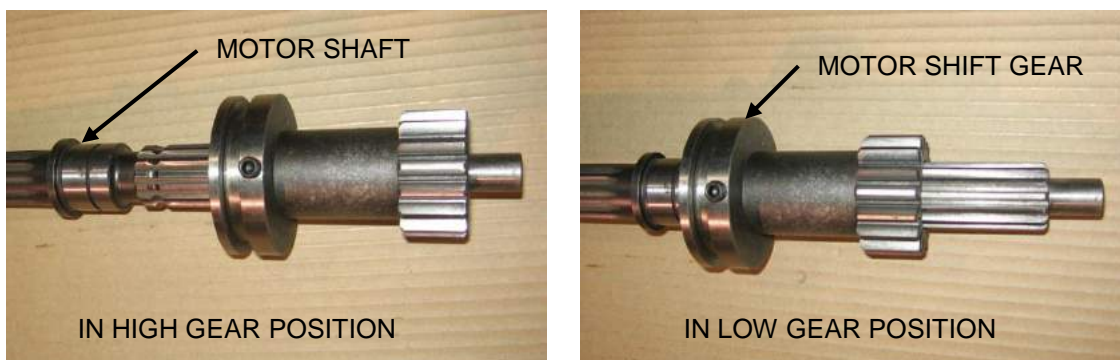

FIGURE 11.23: MOTOR SHIFT GEAR POSITIONS
9. Tighten the set screw. Place the motor shift gear onto the motor shaft and ensure it holds in both positions (if not, tighten the set screw some more). Note that you should be able to move the motor shift gear by hand into the two (high/low) positions, as shown in Figure 11.23, otherwise the set screw is too tight and needs to be loosened.